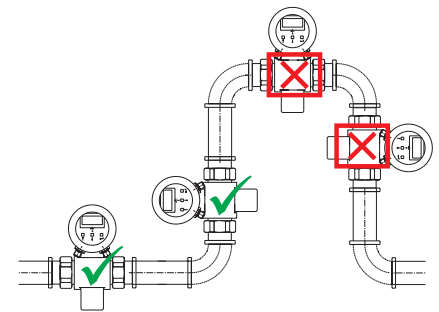

Fig. 2
- + before or into a rising line (Fig. 2 and 3)
- do not install at the highest point (Fig. 2 and 3)
- not in or immediately before a downpipe (Fig. 2 and 3)